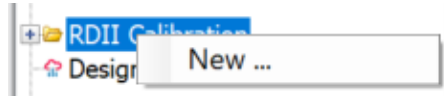

Figure 7: Creating a new RDII calibration file.
2. A new RDII calibration file can be created by right clicking on the *RDII Calibration* folder and selecting *New* as shown in Figure 7.